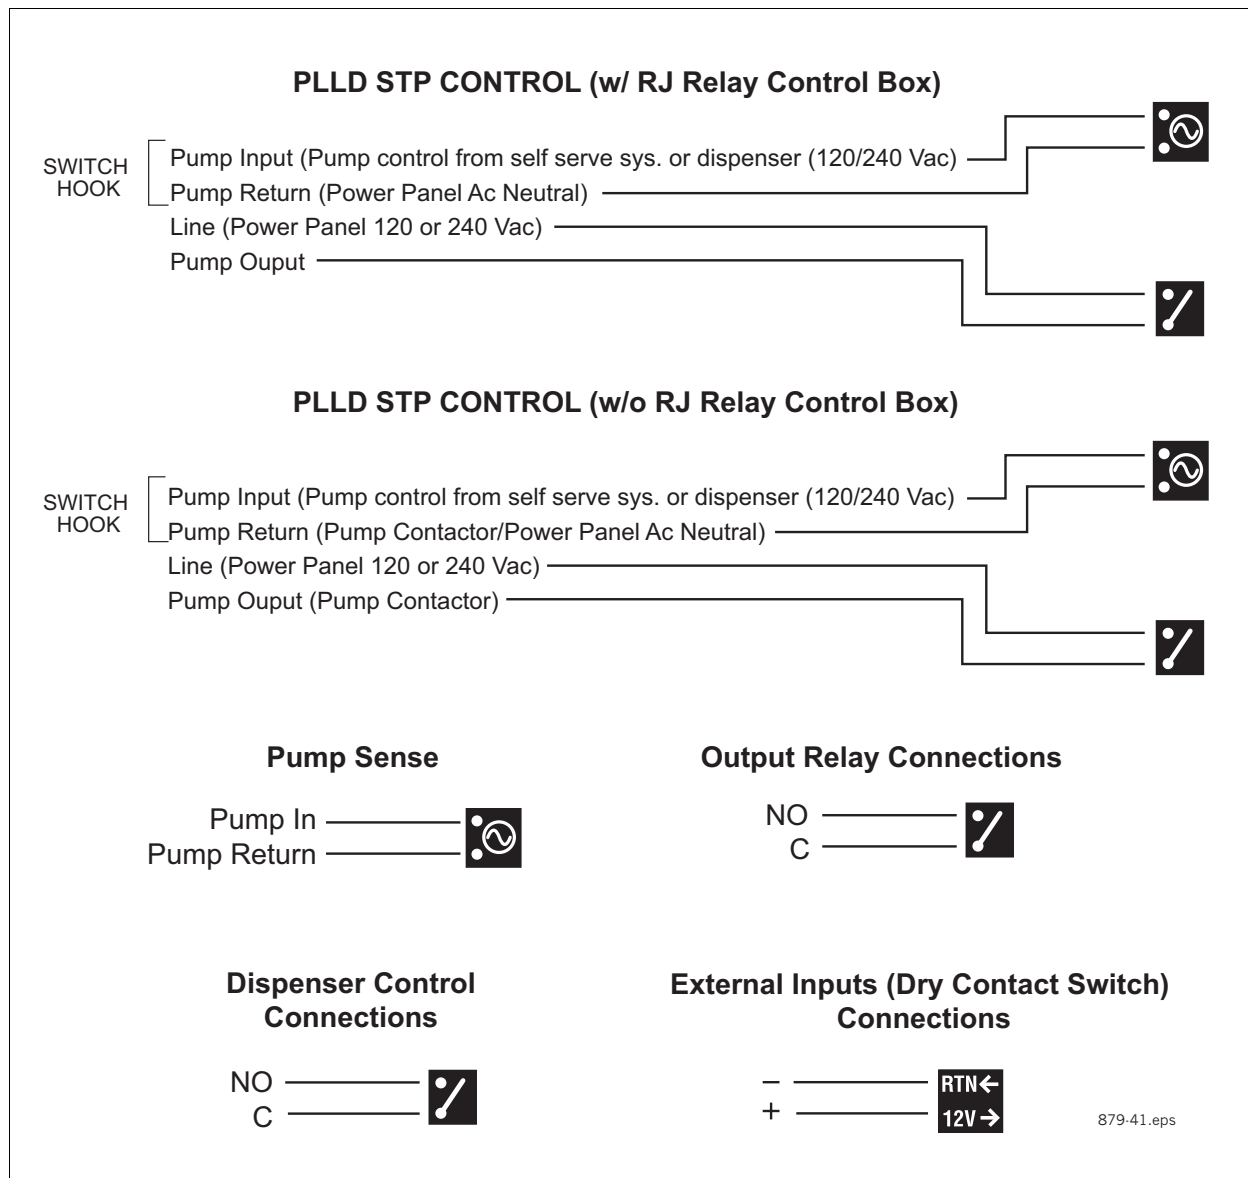

Figure 40. I/O Relay Module Connections
- Figure 40 - I/O module wiring connections